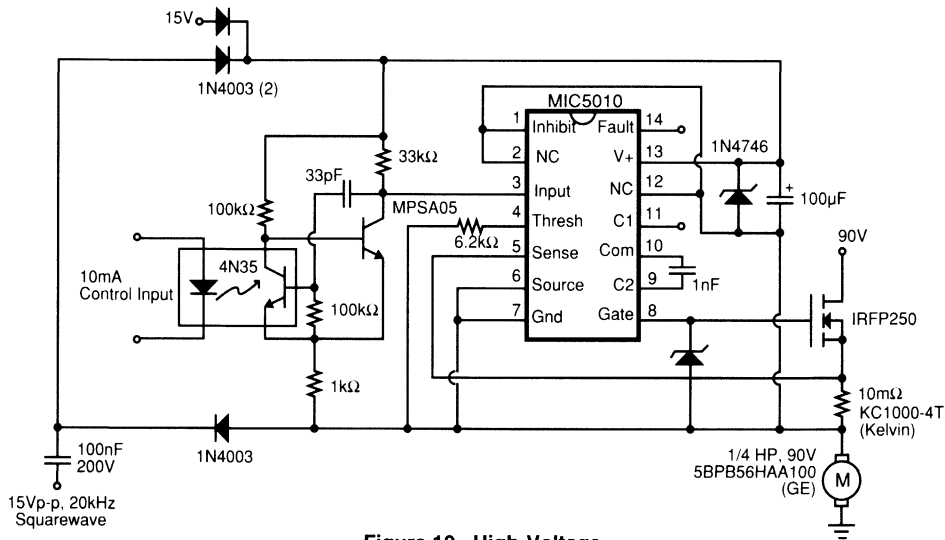

Figure 10. High-Voltage Bootstrapped Driver
**High-Voltage Bootstrap** (Figure 10). Although the MIC5010 is limited to operation on 7 to 32V supplies, a floating bootstrap arrangement can be used to build a high-side switch that operates on much higher voltages. The MIC5010 and MOSFET are configured as a low-side driver, but the load is connected in series with ground. The high speed normally associated with low-side drivers is retained in this circuit.